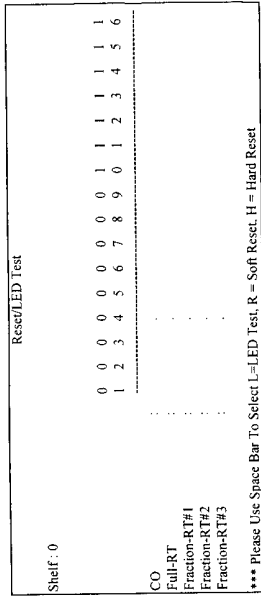

Figure 3-31 Reset/LED Test Menu
2. Use the arrow keys or number keys to select Reset/LED Test Commands from the System Maintenance Menu. Press the Enter or Return key. The Reset/LED Test Commands screen is shown in Figure 3-31.